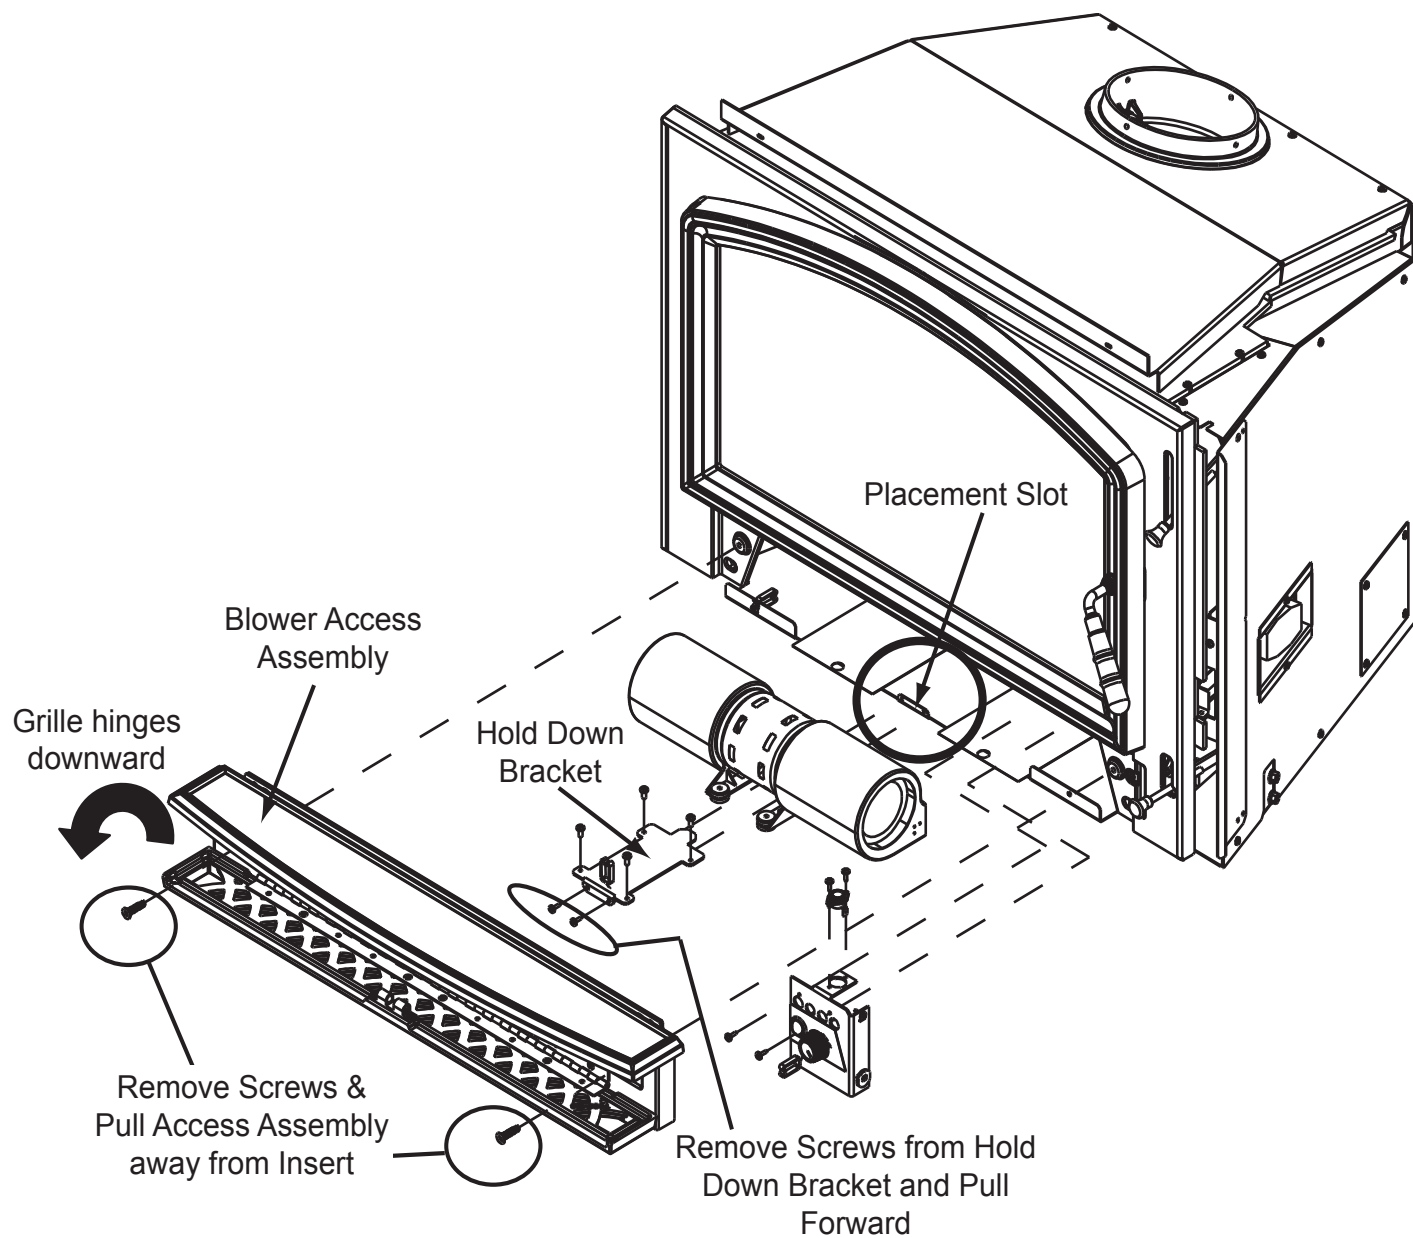

Figure 25.1
**Overview:** You are removing the power cord from the blower controls, re-routing the cord to the left side and re-installing the power cord to the blower controls (**Refer to the exploded drawing on Figure 25.1 on page 25**).